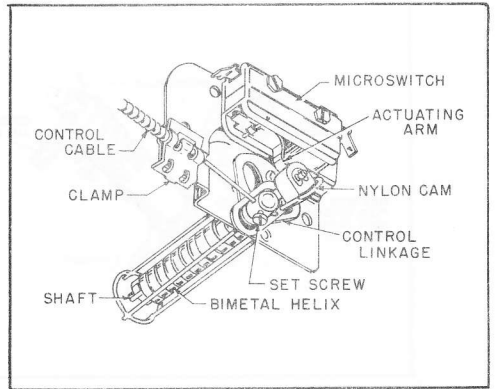

FIGURE 6
2. Secure this bracket to the instrument panel with two (2) No. 8-1/4 inches long hex head sheet metal screws.
4. Remove the cover from the front of the circulating blower to expose the thermostat and pry off the cable clamp at the lower left corner of the thermostat plate. (See Figure 6)